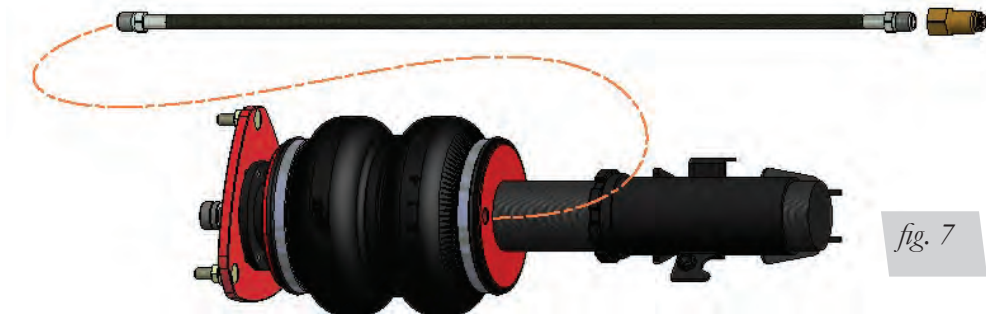

fig. 7
1. Begin by installing the leader line into the air spring (fig. 7). Wrap the threads of the leader hose with Teflon tape or thread sealant. Tighten the appropriate fitting to the airline 1 3/4 turns beyond hand tight. Tighten the leader line into the air spring 1 3/4 turns beyond hand tight.